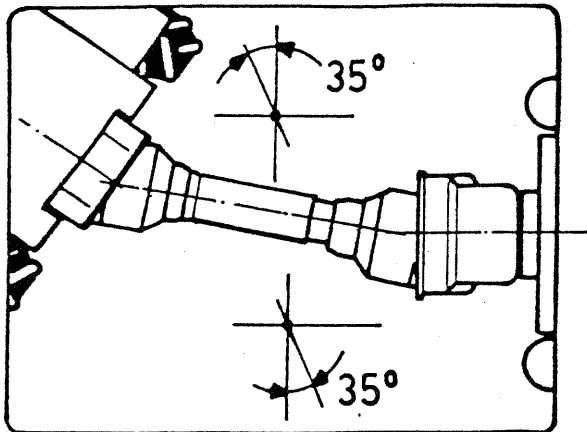

FIG.2
36. Always disengage the power take-off when the Cardan (P.T.O.) shaft is at too wide an angle (it should never be more than 35° - Fig.2) and when it is not in use.